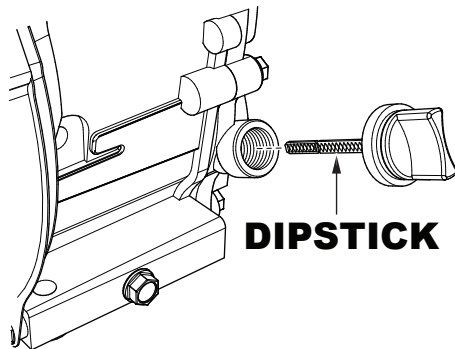

Figure 26. Engine Oil Dipstick
2. Remove the dipstick (Figure 26) from the engine oil filler hole and wipe it clean.